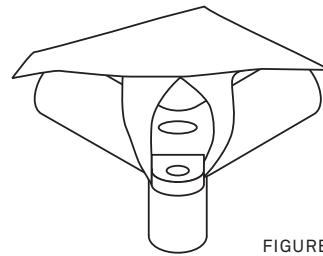

FIGURE 4
- Lay the roof canvas over the frame. Pull the nylon loops over the corners as indicated in figure 4. On one of the corners there is a drawstring to make it easier to pull the last loop over the corner.